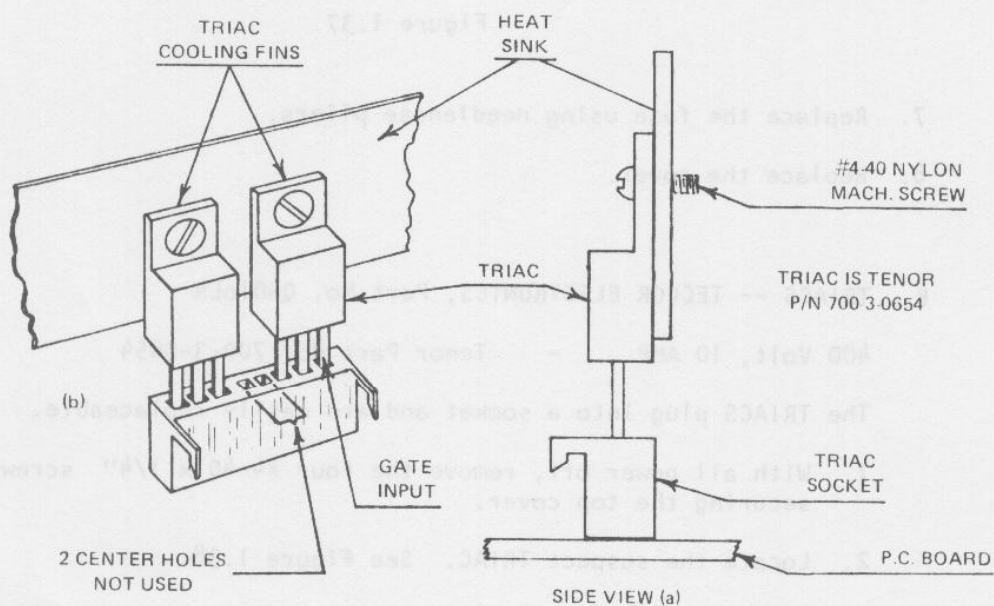

Figure 1.39
CAUTION: When replacing the output TRIAC devices be certain they are plugged in the same (3) outside socket receptacles and are in the correct orientation. See Figure 1.39.